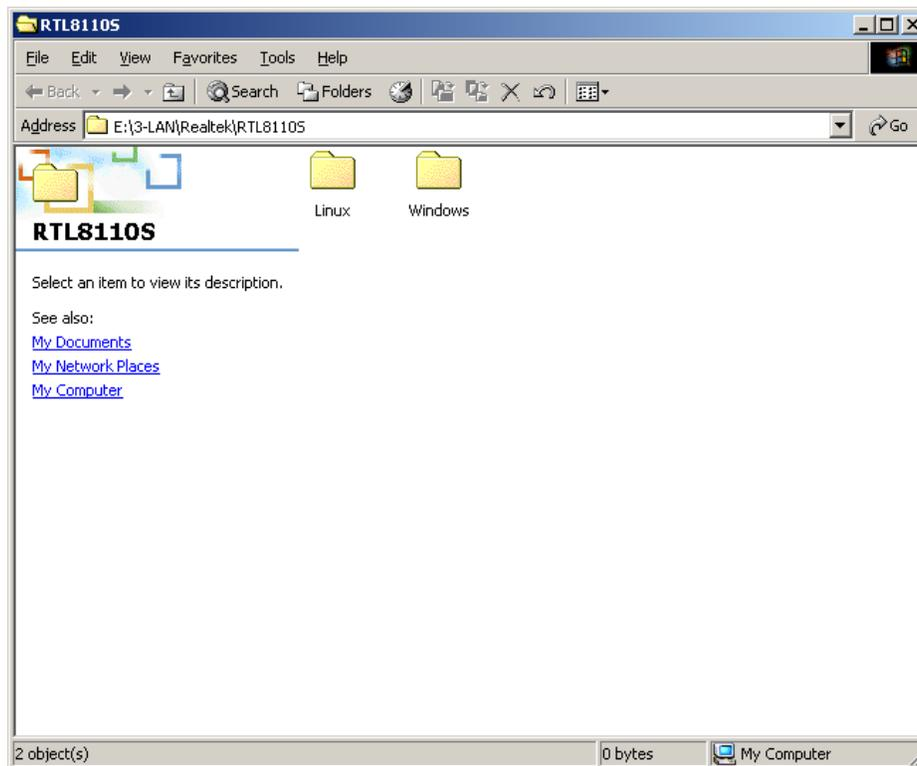

Figure 6-24: OS Icon
Step 4: Select the icon for the OS used in the system. See **Figure 6-24**.